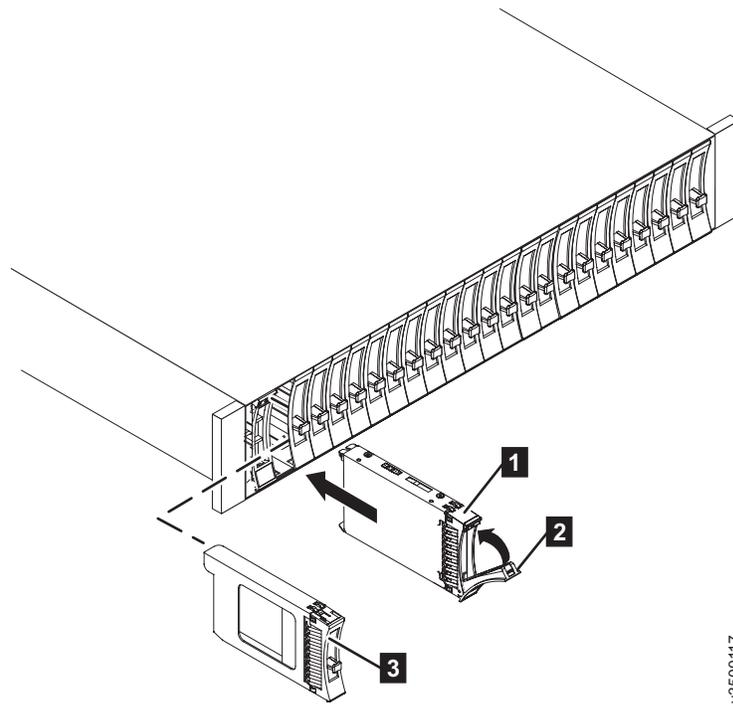

Figure 16. Removing a filler panel
1. Remove the filler panel from the bay into which you want to install the drive (as shown in Figure 16).